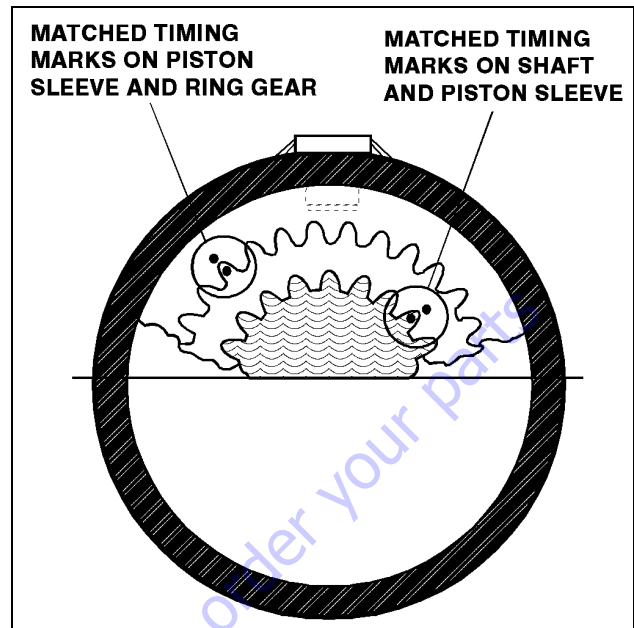

Figure 4-19. Actuator Timing
5. Install the shaft (2) into housing (1) by aligning the proper punched timing marks. (See Actuator Timing Figure 4-19.)
7. The end cap (5) is torqued to 40-50 ft. lbs. (54 - 68 Nm), such that the actuator begins rotation at approximately 100 psi (6.895 bar) pressure.
8. The end cap must be secured against the shaft by installing axial setscrews (4).